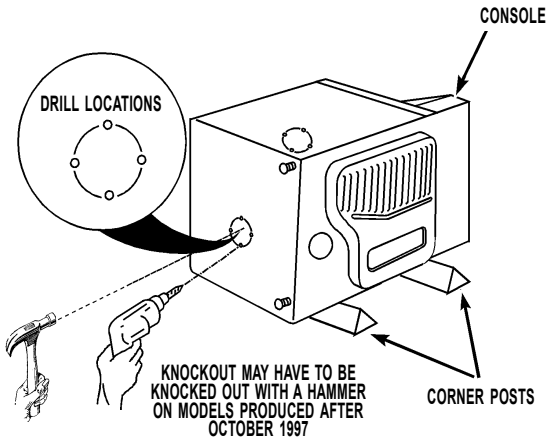

FIGURE 4
- To prevent cabinet damage, lay two (2) corner posts from shipping carton or another protective material, on floor beside dryer. Gently lay dryer on its left side on the corner posts. **DO NOT HOLD THE CONSOLE TO TIP THE DRYER.** See Figure 4.
- Remove bottom cabinet knockout by drilling four (4) 1/4" holes at the drill locations (dimples) shown. See Figure 4.